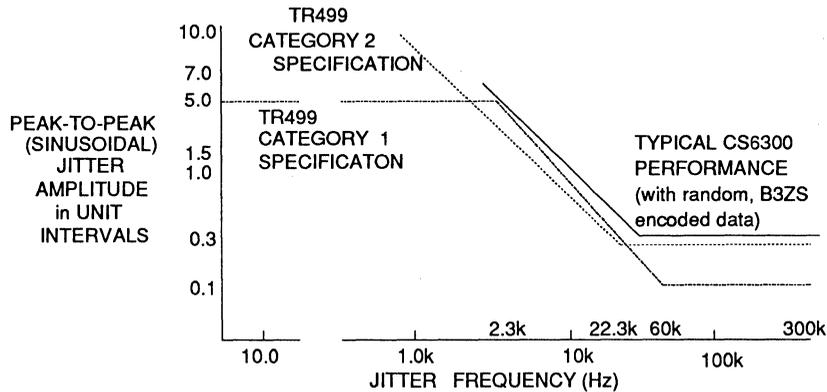

Figure 1. Typical CS6300 Jitter Tolerance at 44.736 MHz
- Typical performance is shown in Figures 1, 2 and 3.